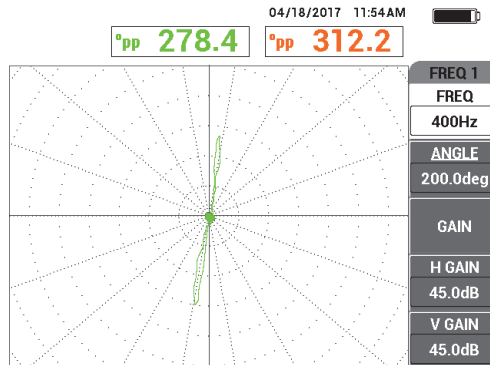

Figure 5-194 The scan of the thru-wall hole
3. Slowly scan the tube until the thru-wall flaw is displayed, and then press the FREEZE key (❄) [see Figure 5-194 on page 266].